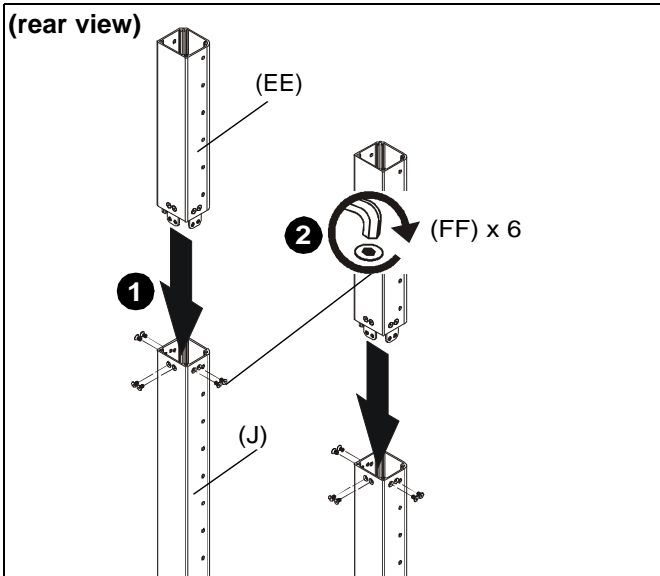

Figure 4
**NOTE:** Column add-ons (EE) are only required for extra large displays or if a higher mounting height is desired than can be achieved with the standard columns (J). If add-ons are not going to be installed, proceed to Rail Installation Section.
1. Insert one column add-on (EE) to each column (J) making sure holes are lined up on each side. (See Figure 4)
2. Use 5/32" hex key (CC) and six 1/4-20 x 1/2" flat head cap screws (FF) to secure each column add-on (V) to each column (J). (See Figure 4)